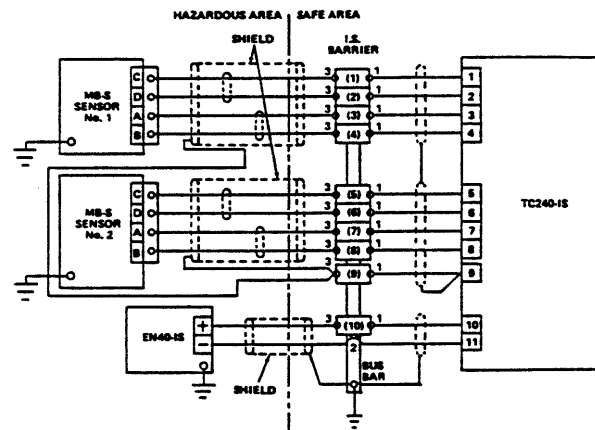

FIGURE 8
F. Electrical Connections — TC240-IS (See Fig. 8).
1. Connect Terminal 1 of Barrier 1 to Terminal 1 of "TC240-IS", Terminal 1 of Barrier 2 to Terminal 2 of "TC240-IS", etc., until all connections have been made between Terminals 1 through 8 of "TC240-IS" (See Fig. 8).
2. Connect both shields and Terminal 1 of Barrier 9 to Terminal 9 of "TC240-IS" (See Fig. 8).
3. Connect Terminal 1 of Barrier 10 to Terminal 10 of "TC240-IS", and connect Terminal 2 of Barrier 10 to Terminal 11 of "TC240-IS" (See Fig. 8).